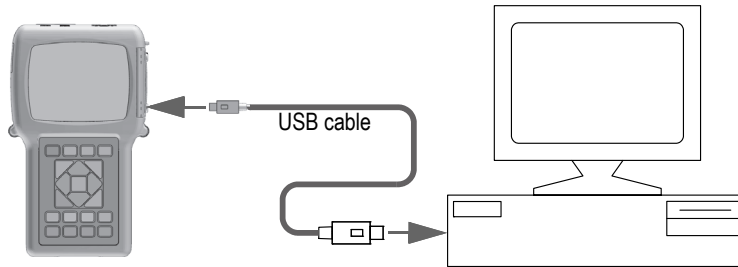

Figure 14-2 Connecting the 39DL PLUS to a computer
9. Connect one end of a USB cable to the USB client connector under the I/O door of the 39DL PLUS, and the other end to a USB port of the computer (see Figure 14-2 on page 265).